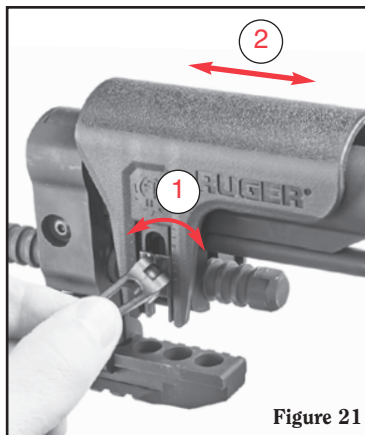

Figure 21
6. In order to move the cheek piece fore and aft, you must first free the cheek piece by releasing the cam lever and rotating it 180°. Now move the cheek piece fore or aft to the desired location. Finally, rotate the cam lever back 180° and lock it down. (See Figure 21.)